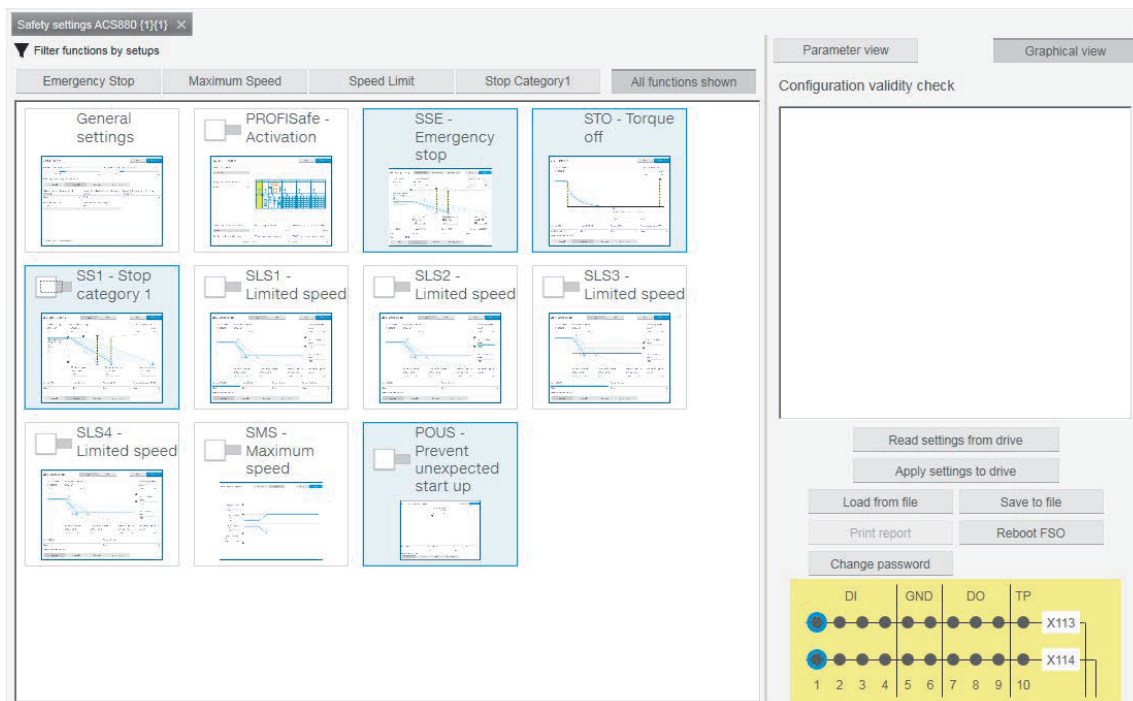
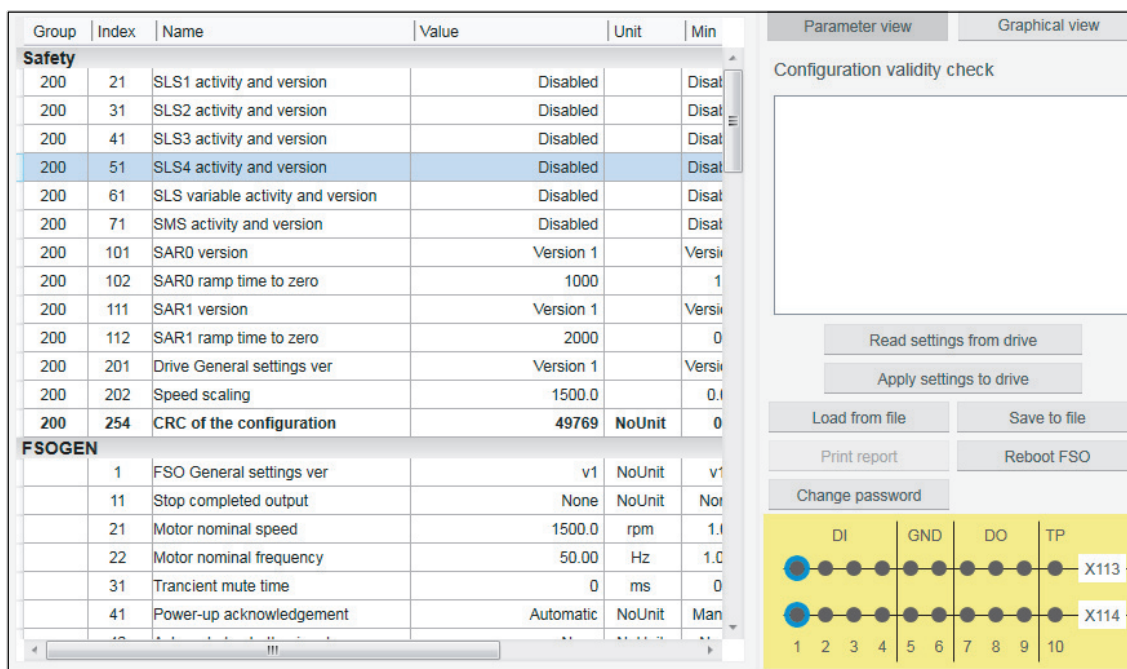

Figure 112. FSO configuration: Graphical view
Figure 113. FSO configuration: Parameter view
You can switch between **Graphical view** and **Parameter view**. See Figure 112.FSO configuration: Graphical view and Figure 113.FSO configuration: Parameter view.
- Graphical view cannot be used for setting safe IO, cascade function or for SBC function (see Figure 112.FSO configuration: Graphical view). Instead use the Parameter view (see Figure 113.FSO configuration: Parameter view).